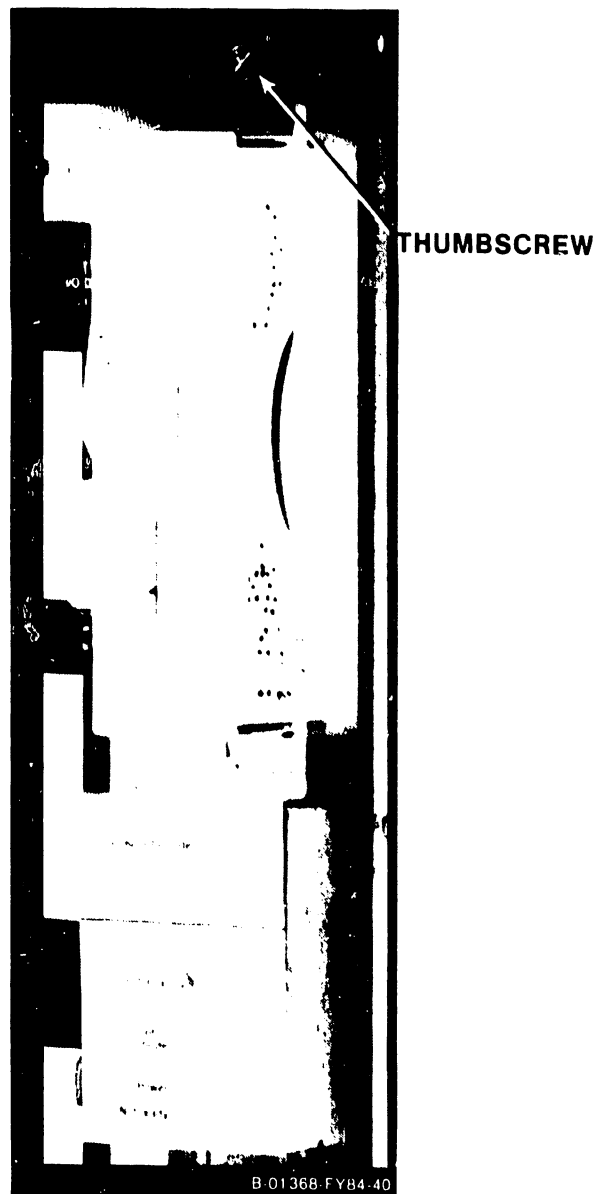

Figure 5-37. SA455 Diskette Drive
4. Unscrew the spring loaded thumbscrew at the top of the drive that secures the drive to the chassis. (Figure 5-37.)